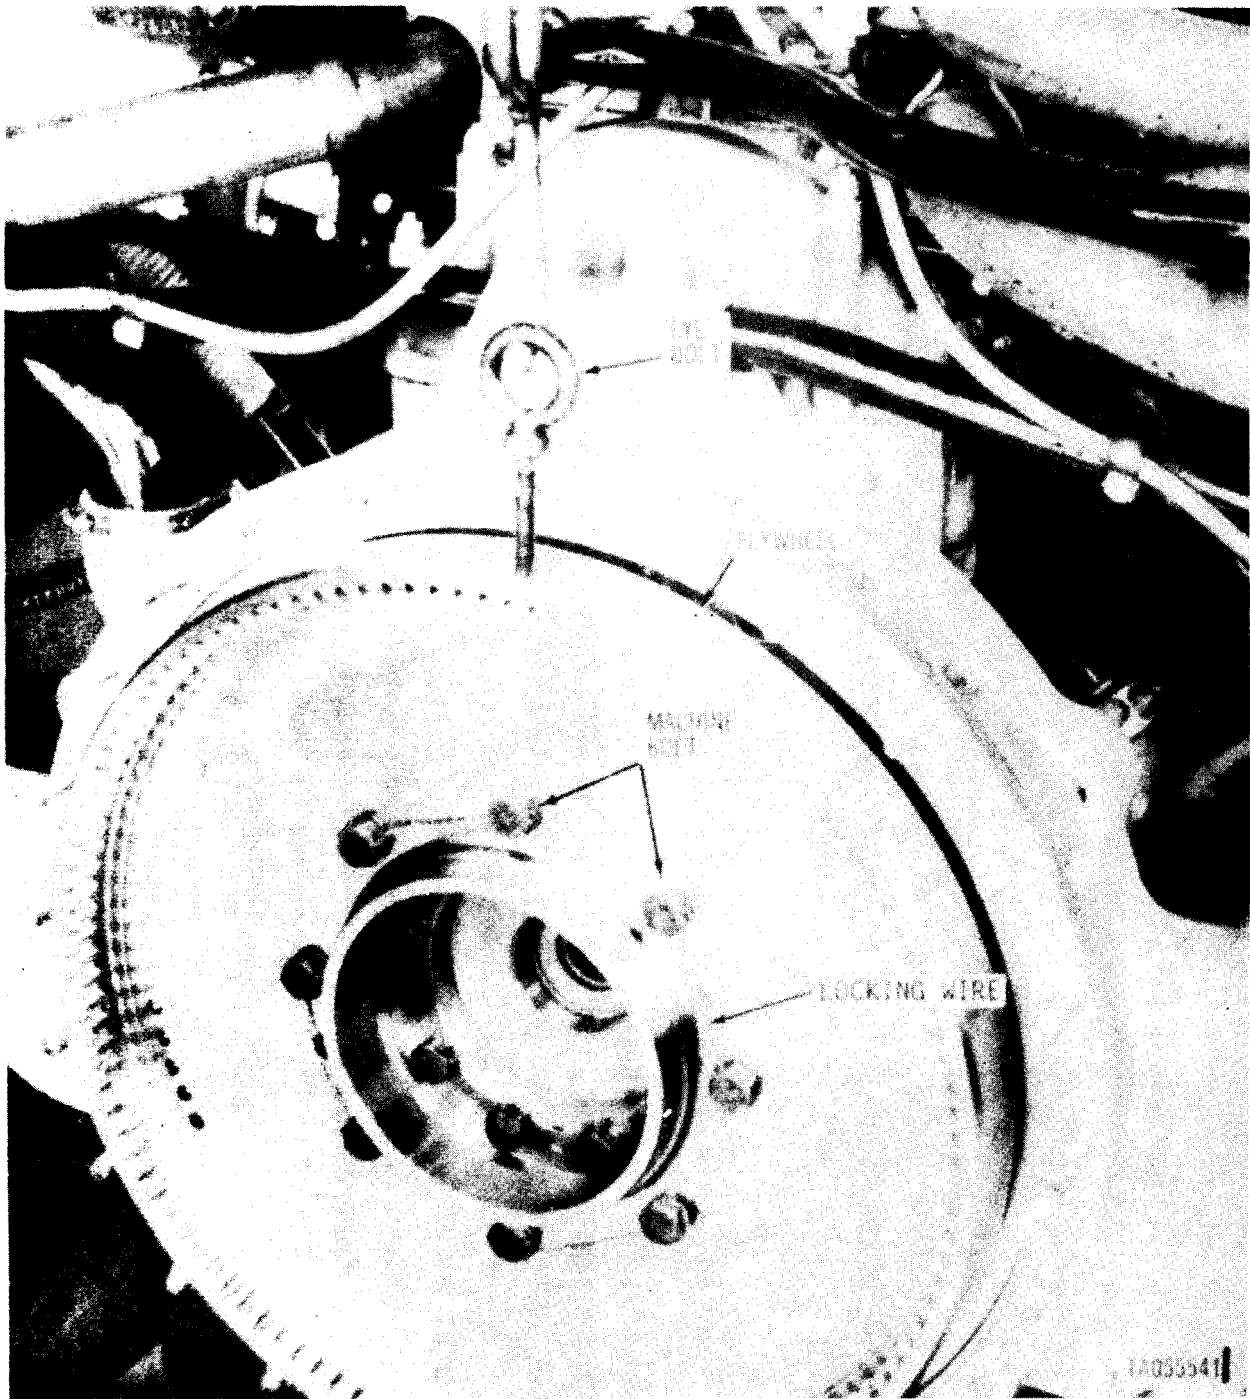

Figure 2-97.1. Removing or installing flywheel, model AVDS-1790-2DR engine.
(1.1) Position improvised engine turning tool (1, fig. 2-42.1) on power takeoff coupling and secure with four 7/16 -20UNFx 1-1/2 inch machine bolts (2). Install a 1 1/4-inch socket (3) and turn crankshaft until flywheel lifting eye bolt hole is on top. Install lifting eye bolt, Part No. MS51937-7 (fig. 2-97.1). Install a suitable chain fall and attach to the lifting eye bolt. Cut locking wire, remove eight machine bolts and remove flywheel (fig. 2-97.1). Remove lifting eye bolt from flywheel, Remove improvised engine turning tool.
(5.2) Install lifting eye bolt in flywheel and install flywheel on crankshaft with dowel pin aligned. Install eight machine bolts and torque tighten to 1000 pound-inches. Install locking wire as shown in figure 2-97.1. Remove lifting eye bolt from flywheel.